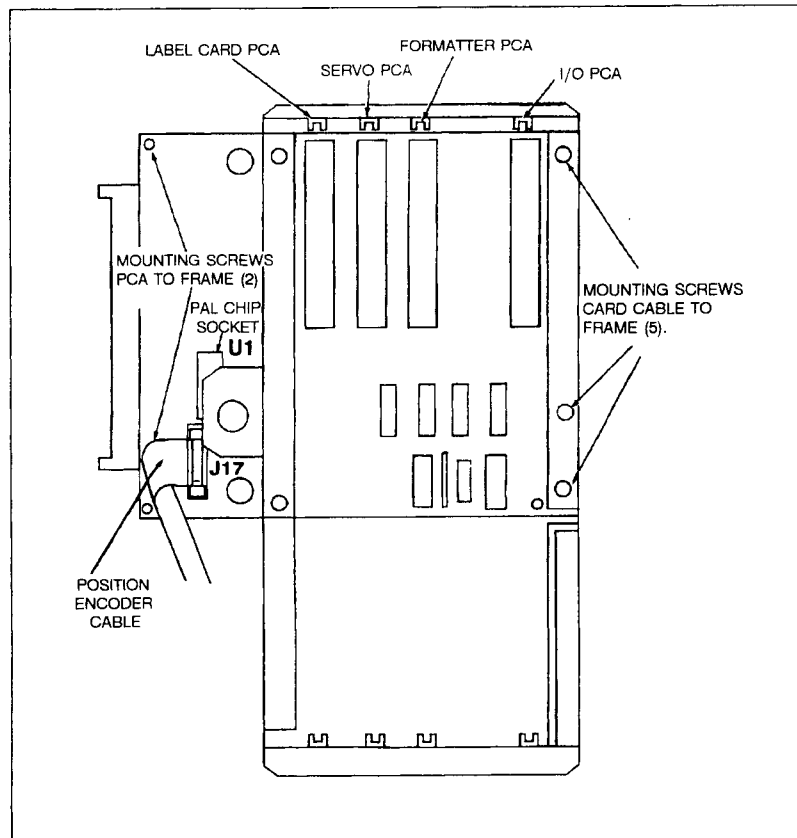

Figure 6-14. Backplane PCA
- a. Switch the printer offline and the ON/OFF switch to the OFF (0) position.
- b. At the right end of the printer, loosen the four screws from the underside of the control panel housing (see Figure 6-14).